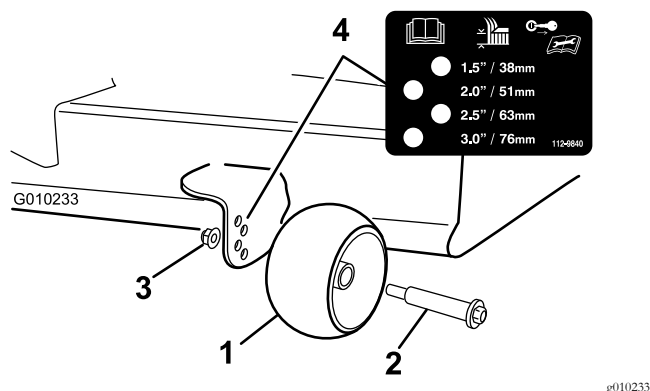

Figure 32
3. Adjust the anti-scalp rollers (Figure 32) to match the closest height-of-cut position.